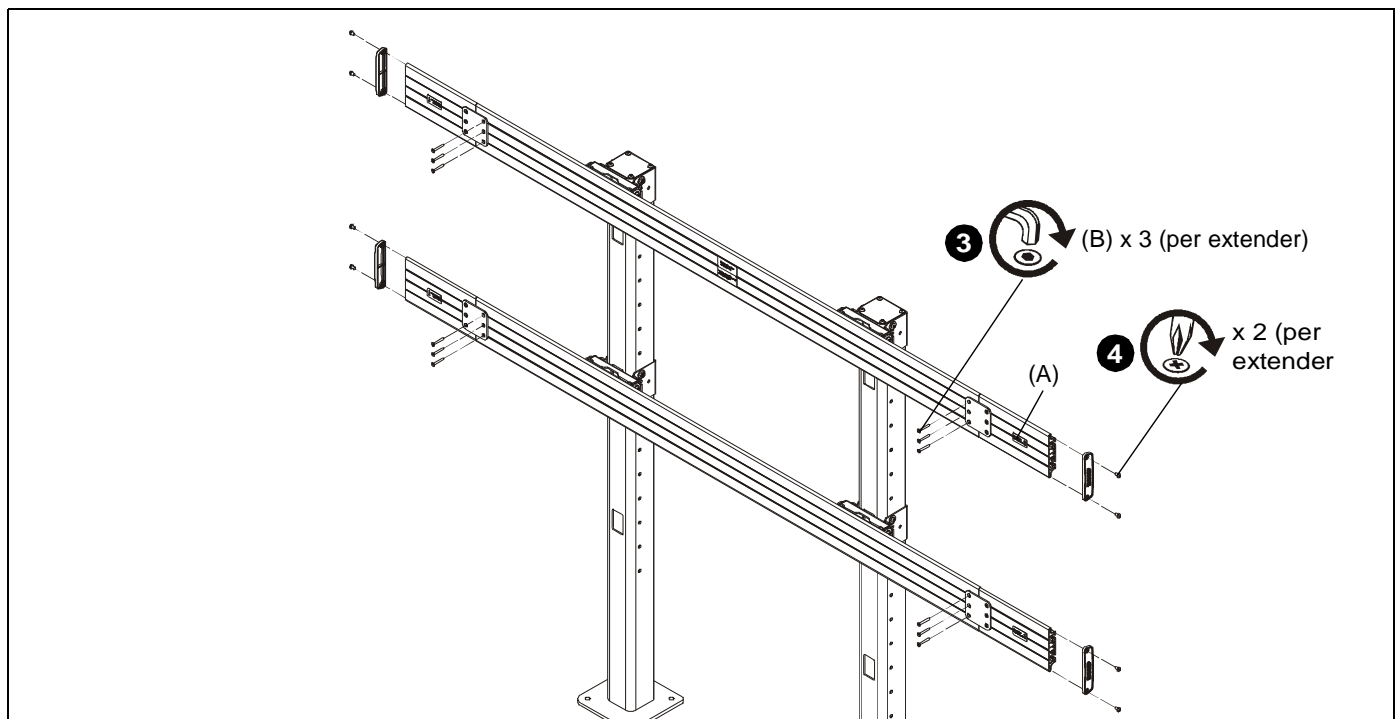

Figure 2
3. Use three #10-24 x 1 1/2" flat head cap screws (B) to attach each extender (A) to rail. (See Figure 2)
4. Reattach ends to rails using two screws removed in Step 2. (See Figure 2)